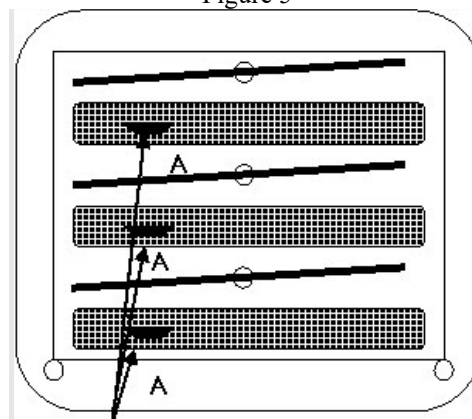

Figure 6
1. Secure 1-TOSI[®] per level in the center of an empty tray as depicted in the diagram above in Figure 6.
2. Place one on each shelf. In multiple shelf units, follow diagram above and examples: (e.g., 3 Shelf Unit, 3 TOSI[®]; 4 Shelf, 4 TOSI[®] or 1-level Tunnel Washer 1-TOSI[®]) as shown in **(Fig. 6)**.